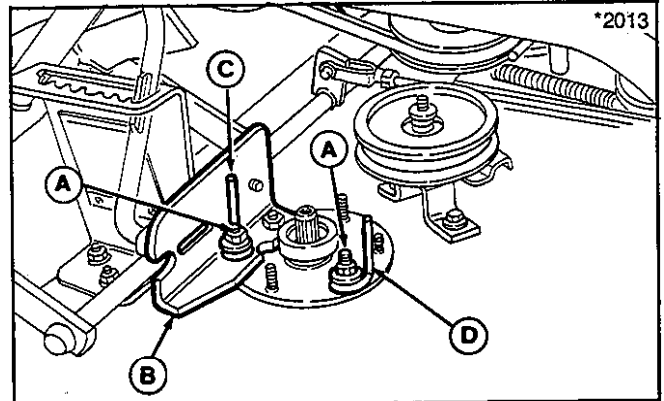
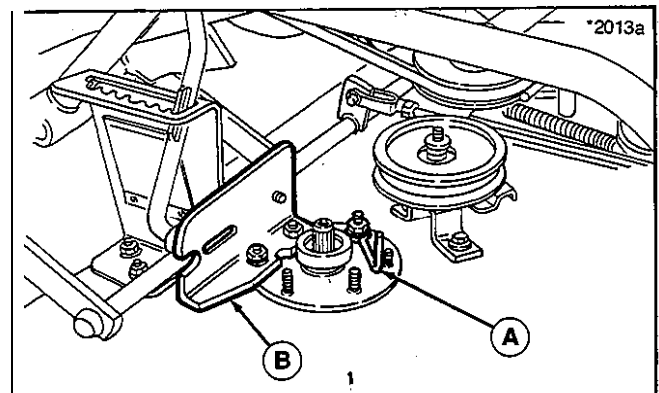
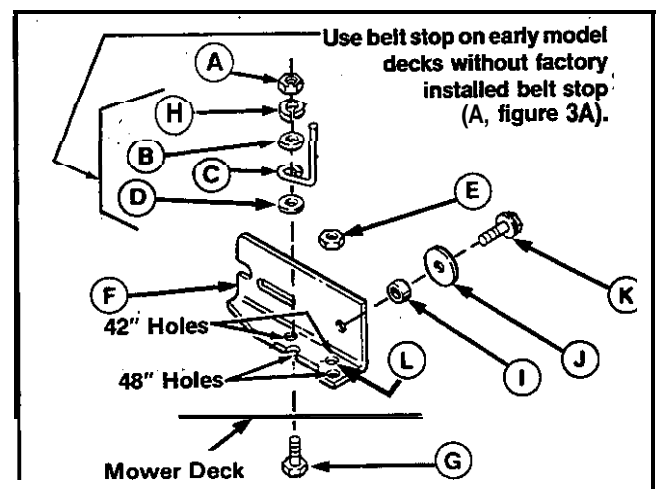

Figure 3. (Early Model)
Figure 3A. (Later Model)
Figure 4.
- On early models without belt stop (A, figure 3) remove two self-tapping screws from arbor and install two 5/16-18 X 1-1/2" capscrews (A, figure 3). Parts will be installed on these capscrews in steps 7 and 8 as shown in figures 3 and 4.
- Install the bracket (F, figure 4) with hardware as shown in figures 3 and 4. On early models, install the rear belt stop (C) facing the inside of mower deck as shown in figure 4. Use washers (B & D) and lockwasher (H) only for securing belt stop (C) on early models. Use jam nut at locations A and E.
- On early models, install the front belt stop (D, figure 3) onto front capscrew (installed in step 6) with washer, lockwasher, and nut. Tighten snug only. The belt stop should face the inside of mower deck as shown in figure 3.
- On later models with factory-installed belt stop (A, figure 3A), it is not necessary to change capscrews as new belt stops are not required.
- Install the bracket (F, figure 4) with hardware as shown in figure 3A and 4. Use jamnuts (A & E, figure 4) to secure bracket (F).